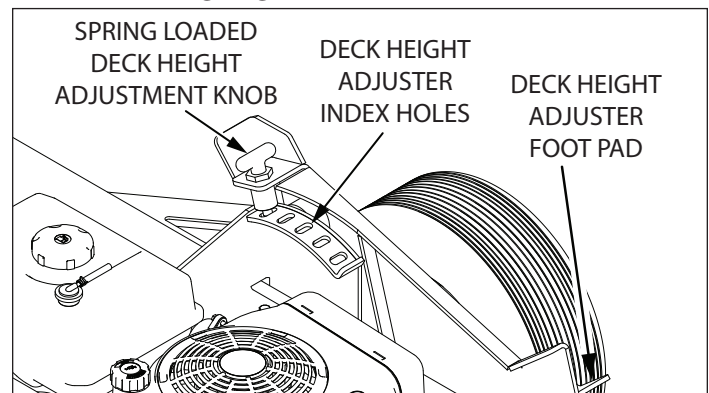

FIGURE 6: Cutter Deck Height Adjustment.
- a. Apply foot pressure to the deck height adjuster foot pad. **SEE FIGURE 6**